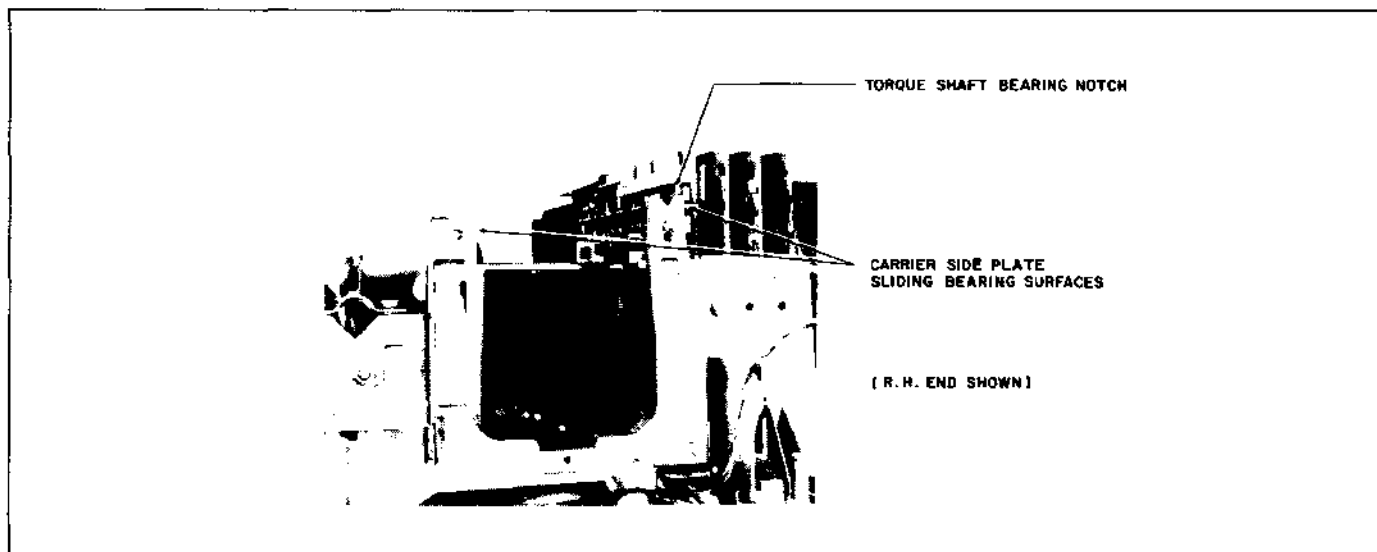

Figure 3-11. Carrier System Replacement
(1) Clean all carrier subassembly bearing surfaces on the printer main frame of old grease, etc. Reapply a light coating of multipurpose grease to these points, on both ends of the main frame. Refer to Figure 3-11.